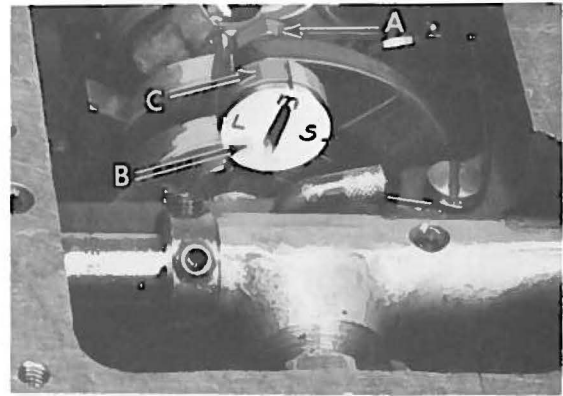

Fig. 14
These machines are fitted with an adjustable 401 looper avoid link to accommodate extreme needle sizes from 075/029 to 140/054. Machines shipped from the factory will, have the setting for the sizes as listed under the "NEEDLES" paragraph, unless otherwise specified. Should adjustment become necessary, drain oil from the machine and remove bottom cover. Loosen nut (A, Fig. 14) and rotate eccentric stud (B) to align the letter "S", "M" or "L" which represent small, medium or large looper avoid, respectively, with timing mark in looper avoid link (C) as required. To ensure a uniform setting, position the needle head at the bottom of its stroke before aligning the letter on the eccentric stud with respect to the timing mark in the looper avoid link. Recommended settings for machines using needles sizes: